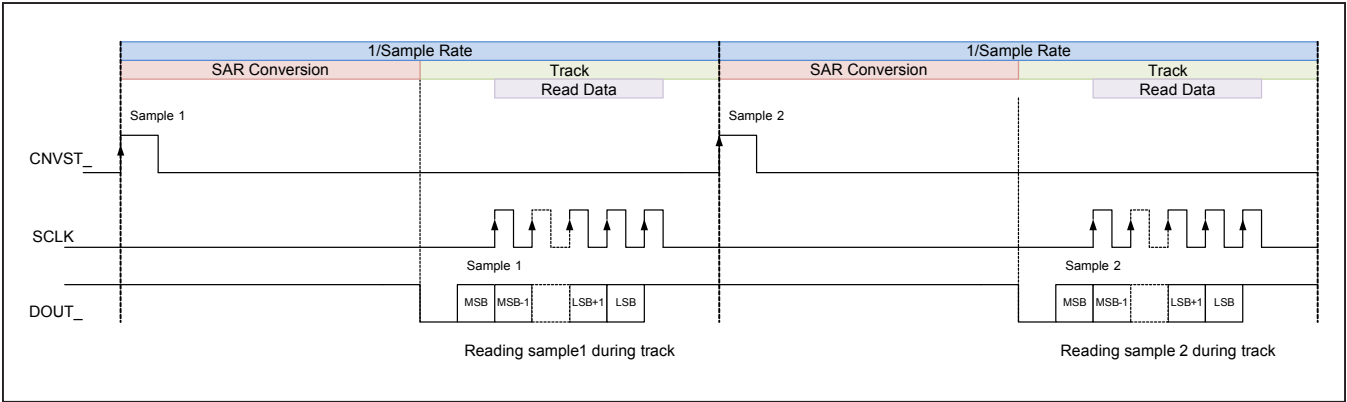
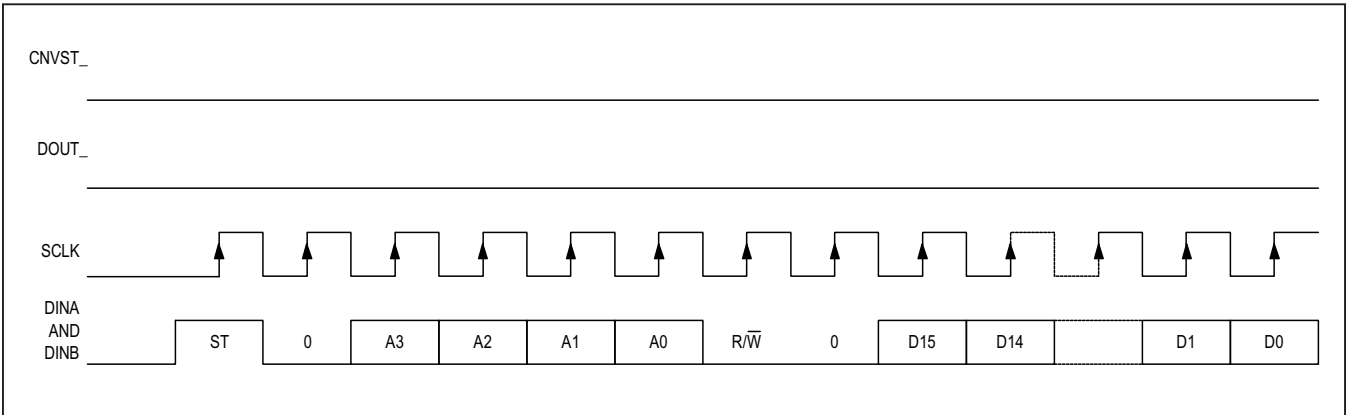

Figure 5. Read During Track Phase
Figure 11. Mode Register Write
- Reading during track phase (Figure 5)
When reading during track phase mode, the data is read only while the ADC is in track mode. Figure 5 shows the SPI signal for this reading mode.
All SPI operations start with a command word. The structure of the command word is shown below. If there is no start bit, i.e., DIN is low, the part will output the conversion result and then go idle (see Figures 5, 6, and 7). The 20-bit mode register is the only register that can be written to. Figure 11 shows the waveform for a mode register write operation.
\*Conversion result can also be read as shown in Figures 5, 6, and 7.